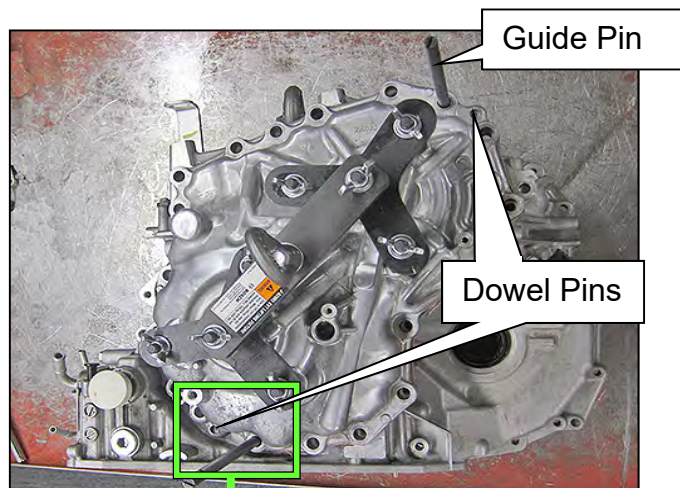
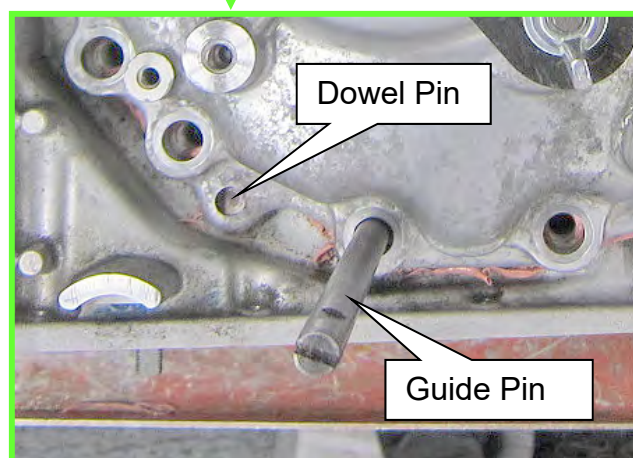

Figure 88
Figure 89
63. Install the two CVT Assembly Guide Pins (J-51959 - Guide Pins) as shown in Figure 88 and Figure 89.